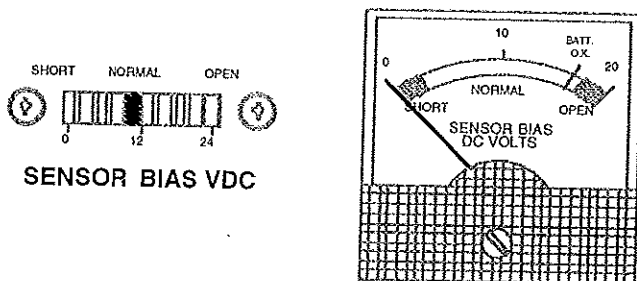

FIGURE 2 TYPICAL FAULT MONITOR METERS
**NOTE:** The fault monitor meter may be the led style (shown on left in Fig 2) or the D'Arsonval panel meter style, shown on the right, Fig 2, depending on the power unit model.